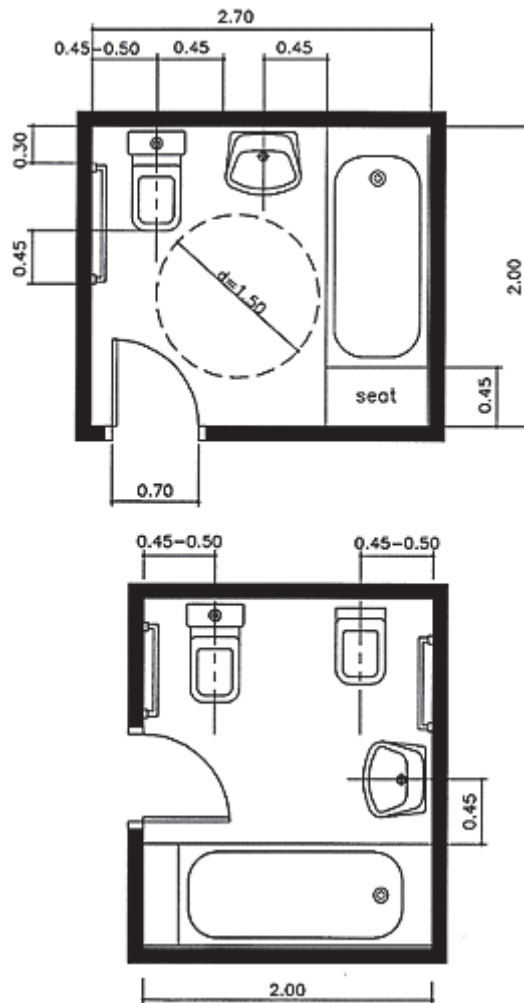

Fig 6.
- The size and layout of residential rest rooms should comply with the minimum requirements (fig. 6).